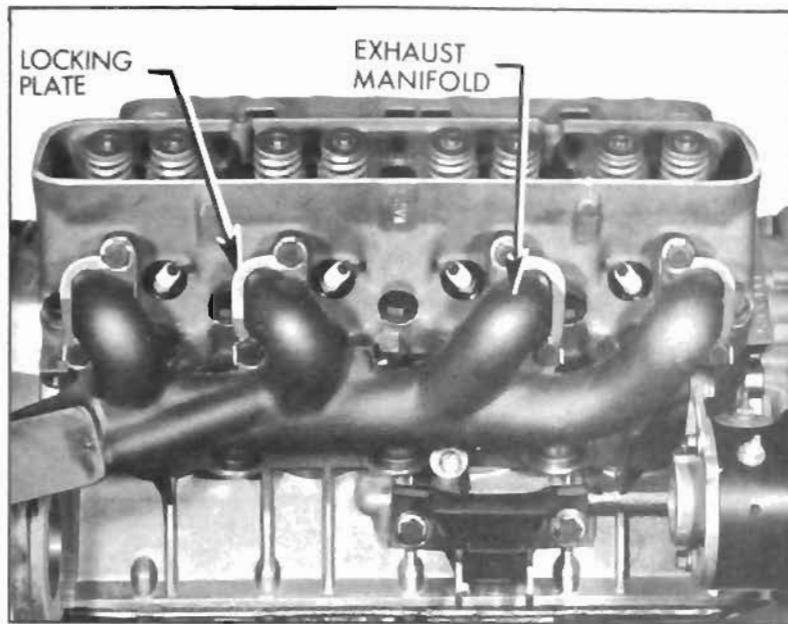

Figure 2-59—Exhaust Manifold Installation
3. Assemble exhaust manifold to cylinder head with bolts and locking plates as shown in Figure 2-59. Torque bolts to 10-15 ft. lbs.